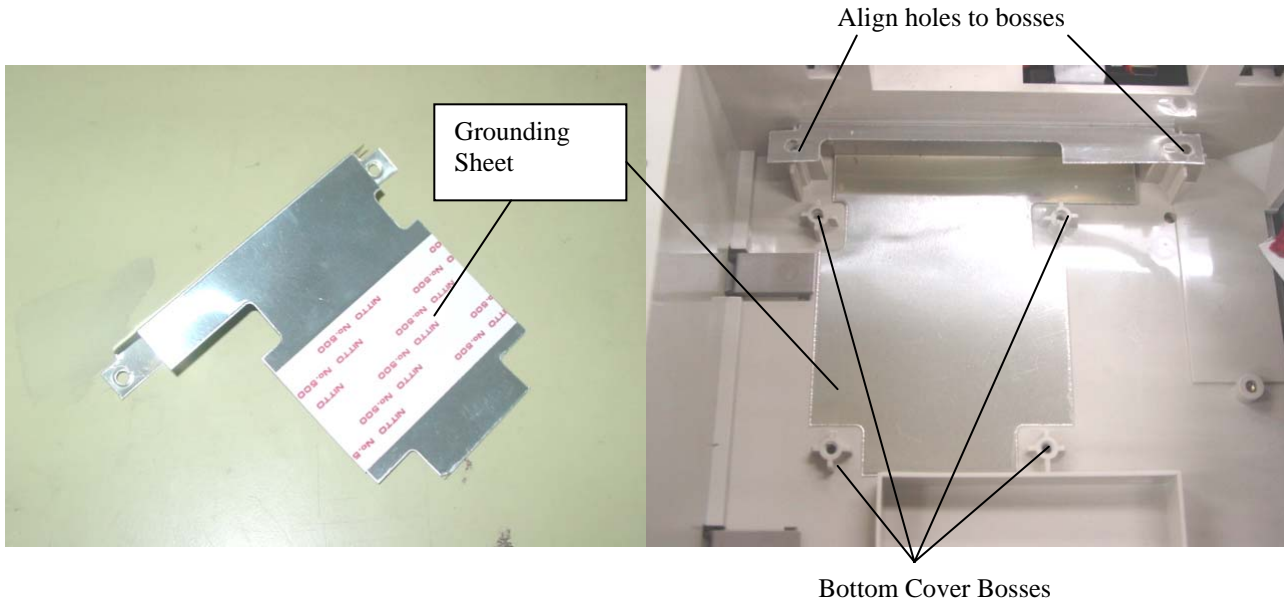

Figure 18 – Pasting of Grounding Sheet
1. Remove the double-side tape protective layer and paste Grounding Sheet (part 11) on the bottom cover, ensuring the two holes of the Grounding Sheet are aligned with the two bosses on the bottom cover. (Figure 18)
2. Place Check Scanner Sub PC Board (part 10) on the four bosses of the bottom cover (Figure 18, 19)